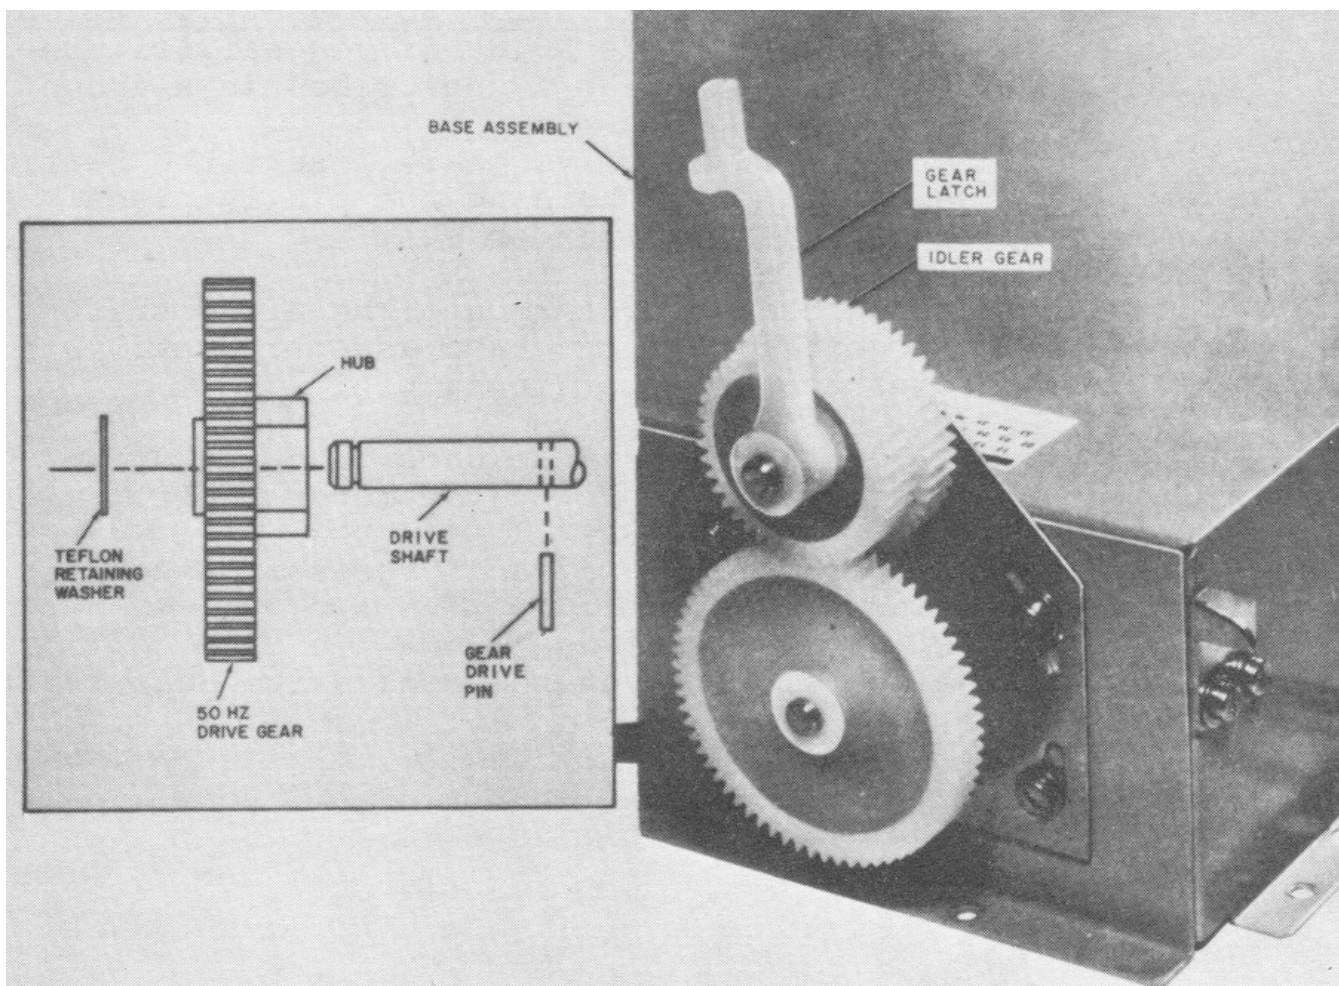

FIGURE 3-13. 50 Hz drive gear installation.
b. 50 Hz drive gear installation for 50 Hz operation. If it is necessary to install the 50 Hz drive gear (figure 3-13), remove the 60 Hz drive gear as described in a above.
(1) To install the 50 Hz drive gear, insert the gear drive pin into the motor shaft, holding the pin in place with a screwdriver blade or similar object.
(2) Slide the 50 Hz drive gear onto the drive shaft with the hub of the gear toward the base assembly until the gear hub encloses the gear retaining pin.
(3) Push the Teflon retaining washer onto the drive shaft until it seats in the groove on the motor shaft.
(4) Replace the solution tray and processing rack assembly (para 3-6b and c).
(5) Snap the gear latch over the rack drive gear shaft (figure 3-13).